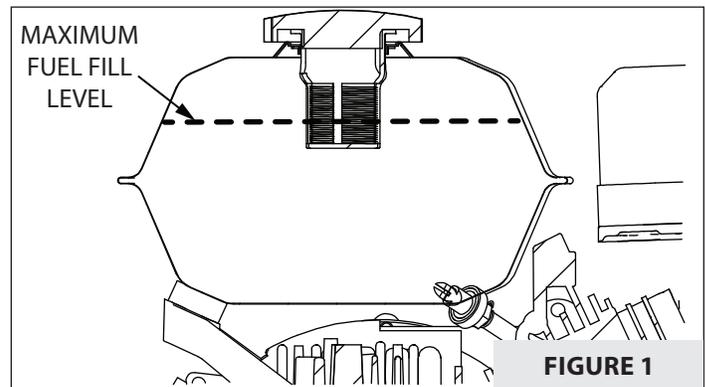

FIGURE 1
3. Fill tank to fuel level limit (as indicated by the fuel fill strainer). **SEE FIGURE 1.**